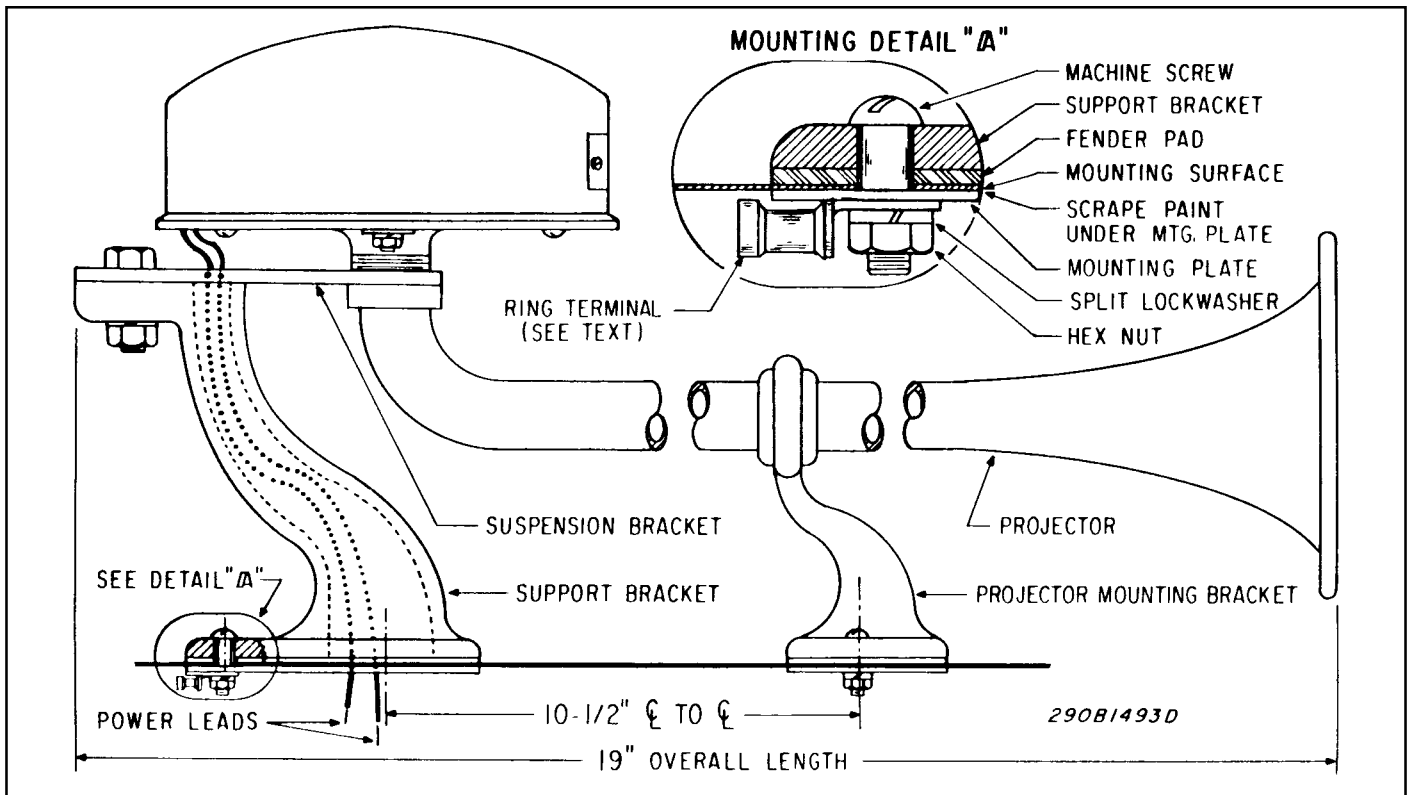

Figure 1.
3. See figure 1. Place the projector mounting bracket pad on the mounting surface so that the center to center distance between the 3/8" hole that was drilled in step 2 and the holes in the pad are approximately 10-1/2 inches. Scribe two screw location marks on the mounting surface.
5. See figure 1, mounting detail "A". Scrape the paint and other surface coatings from around one of the 17/64" mounting holes on the under side of the mounting surface to ensure a good electrical ground.
7. Attach the horn to the mounting surface. See figure 1, mounting detail "A". Mount the support bracket first, using the support bracket fender pad, the mounting plate, three 1/4-20 x 7/8" mounting bolts, flat washers, split lockwashers, and nuts. Be sure to install the ring terminal on the support bracket mounting screw at the hole from where the paint was scraped.